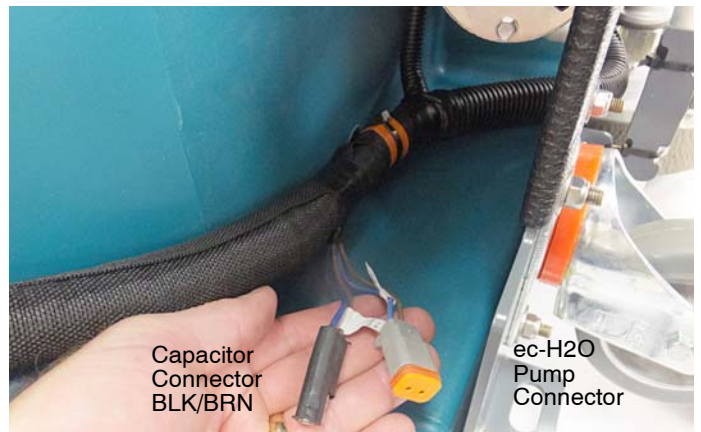

Fig. 28
6. Locate the the factory installed pump connector and capacitor connector cable-tied to the main machine harness near pump (Figure 28).